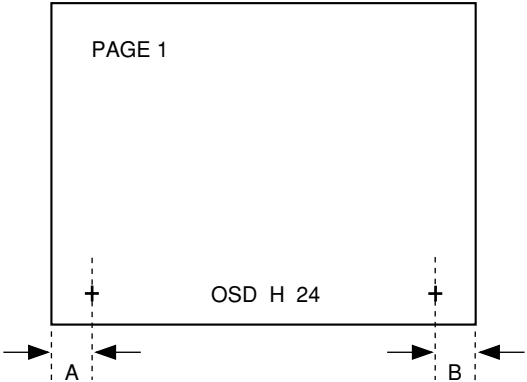

Fig.1-4
- Use the volume keys on the jig remote control to adjust so that both sides of OSD characters are equal to the length of edge of screen. A = B Fig. 1-4